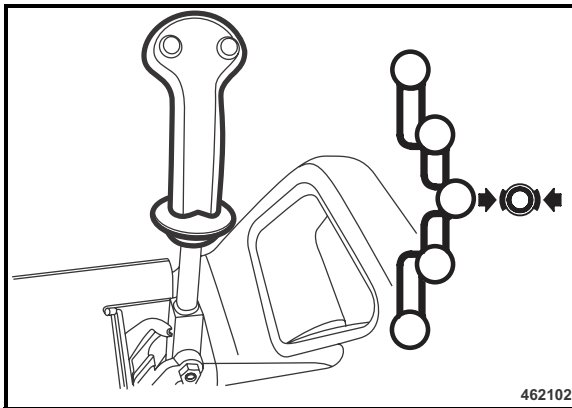

Fig. 65
- Shift the travel lever (Fig. 65) slowly back to neutral position and lock it in parking brake position.